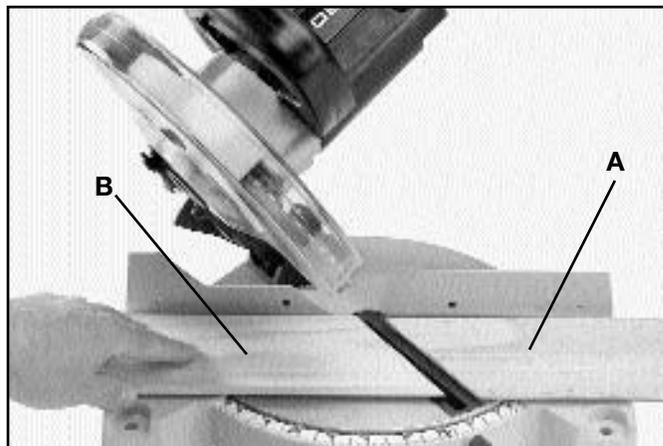
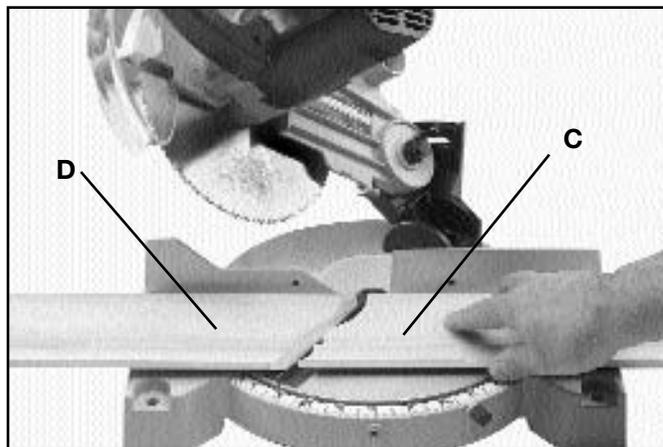
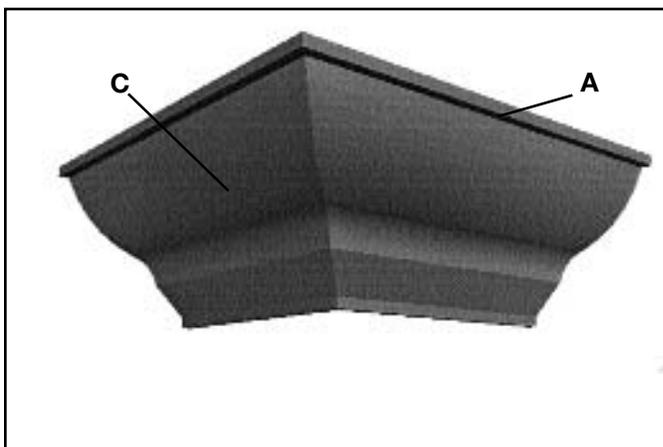
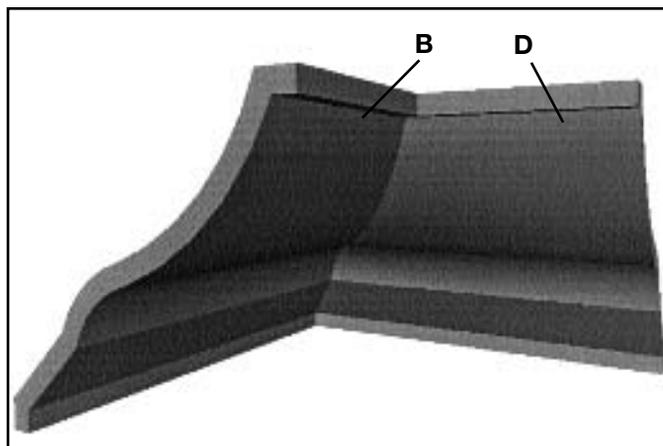

Fig. 37
Fig. 38
Fig. 39
Fig. 40
3. Place the crown moulding on the table with the **CEILING EDGE** of the moulding against the fence, and make the cut, as shown in Fig. 37. **NOTE:** The piece of crown moulding used for the outside corner will always be on the right hand side of the blade, as shown at (A) Fig. 37. The piece of crown moulding used for the inside corner will always be on the left hand side of the blade, as shown at (B) Fig. 37.
5. Place the crown moulding on the table with the **WALL EDGE** of the crown moulding against the fence as shown in Fig. 38, then make the cut. Again, the piece of crown moulding used for the outside corner will always be on the right side of the blade, as shown at (C) Fig. 38. The piece of crown moulding used for the inside corner will always be on the left side of the blade, as shown at (D) Fig. 38.
6. Fig. 39, illustrates the two outside corner pieces; (A) being the piece cut at (A) Fig. 37, and (C) being the piece cut at (C) Fig. 38.
7. Fig. 40, illustrates the two inside corner pieces; (B) being the piece cut at (B) Fig. 37, and (D) being the piece cut at (D) Fig. 38.